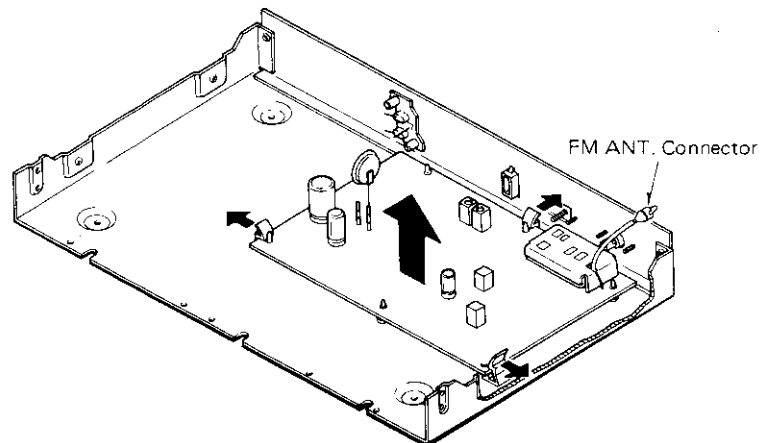

Fig. 9
4. How to remove the TUNER UNIT (Fig. 9)